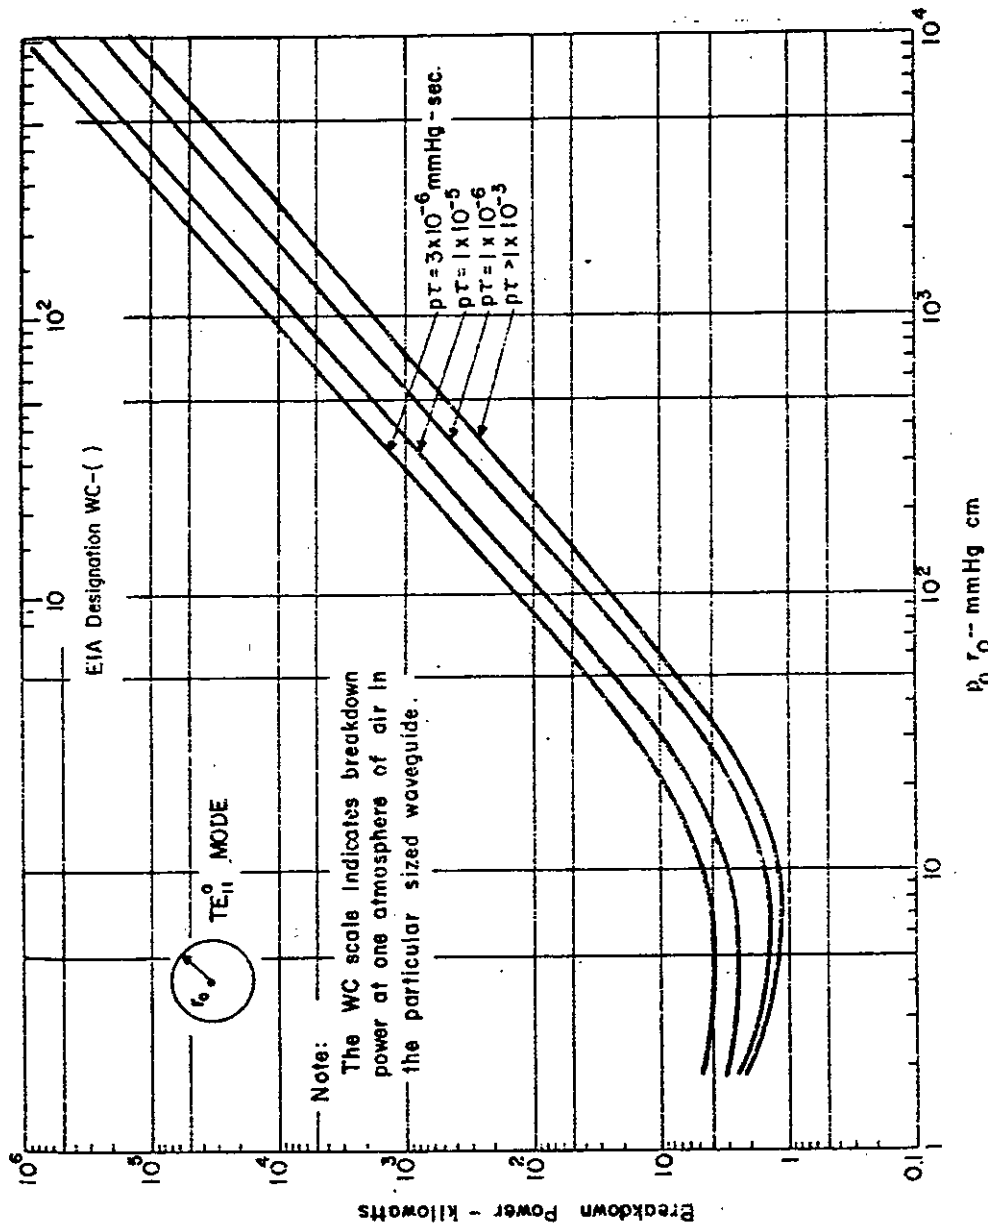

FIGURE 6.10. Single pulse breakdown power for air filled circular waveguides, TE₁₁ mode.
6.3.4 Circular waveguide power handling capabilities. Power handling capabilities of standard circular waveguides are given in figures 6.10 through 6.15.